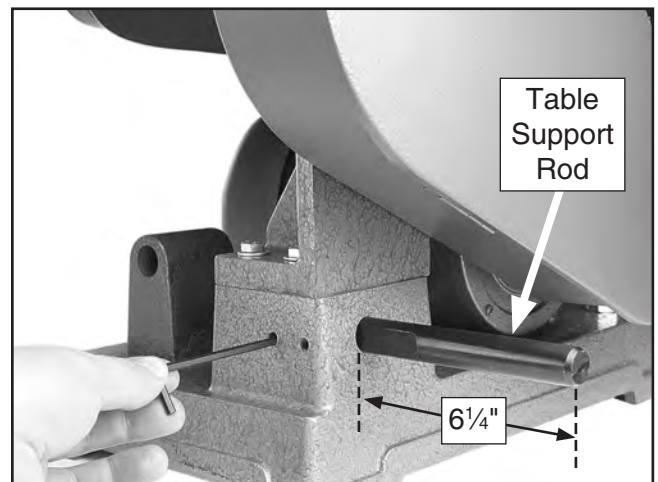

Figure 32. Installing table support rod.
11. Loosen the two set screws on the back of the base, slide the table support rod into the shaft, making sure the flat of the shaft faces the set screws, then tighten the set screws, as shown in **Figure 32**. The rod should protrude about 6¼" from the side of the base.